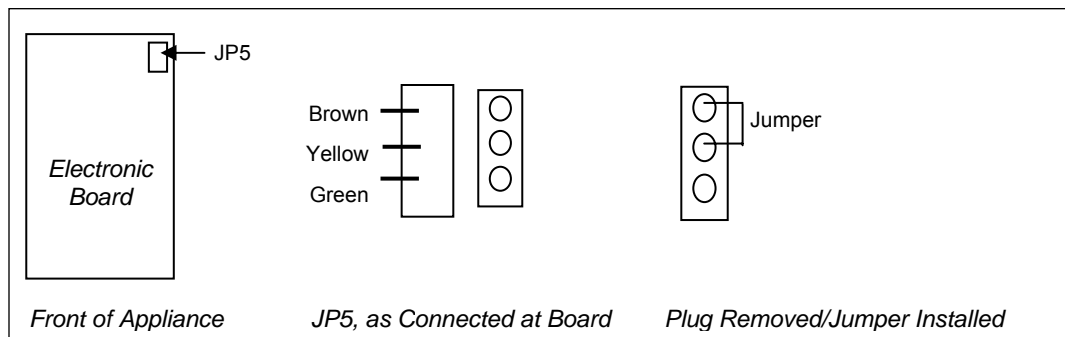

Figure 5-53: Location of JP5/JP25 and Placement of Jumper
- b. **Yes.** Unplug the connector at JP5 on the electronic. Place a jumper at JP5 (CVA 610) or JP25 (CVA 615) between the rear and center pins on the electronic (see Figure 5-53). Access service mode. Check if a solid "8" is shown in the first line in the display. If so, replace the flow meter (Section 5.55). If not, replace the power electronic (Section 5.4).